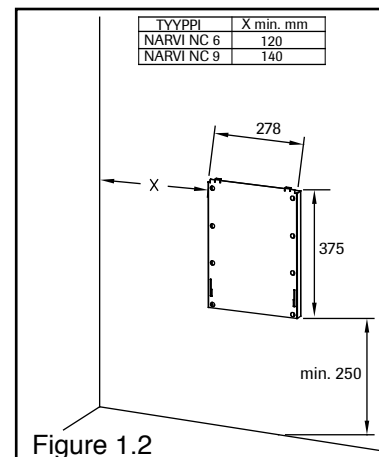

Figure 1.2
- Fasten the attachment plate to the wall using the screws included in the delivery in accordance with Fig. 1.2.